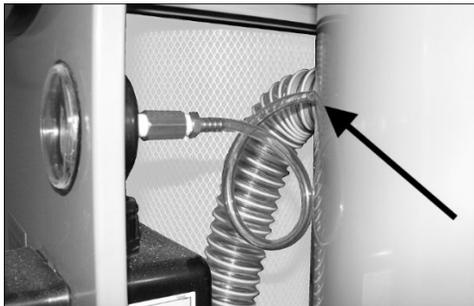

Figure 5-11
28. Slide free end of pressure gauge tube onto housing. See Figure 5-11.